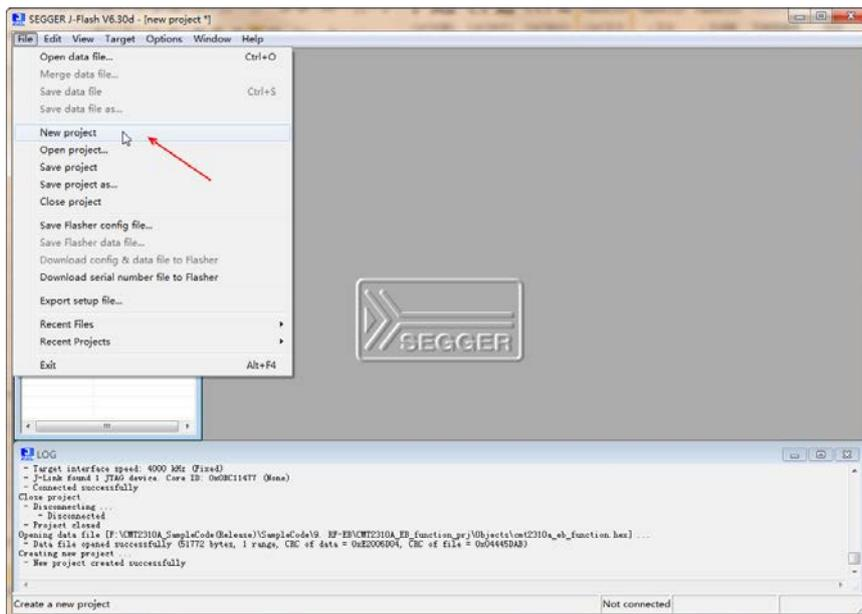

Figure 4-1. J-Flash Software interface
1. Start the J-flash software. Take J-Flash V6.30d as an example, as shown in Figure 4-1. Click on "File" in